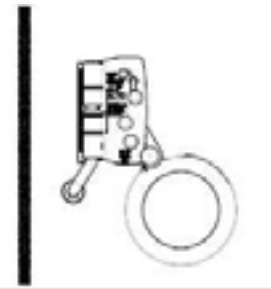

Figure 5
- a. Connect the Snap Hook (A) on the Vertical Lifeline (B) to a rigid Anchorage Point (C) that meets the requirements on page 2 “Equipment Requirements”
- a. Attach the Rope Grab (D) to the Vertical Lifeline (B).
- i. Ensure the rope grab is in the “UP” position as indicated on the product. The “UP” end of the rope grab must be oriented towards the anchorage. (See Figure 5)